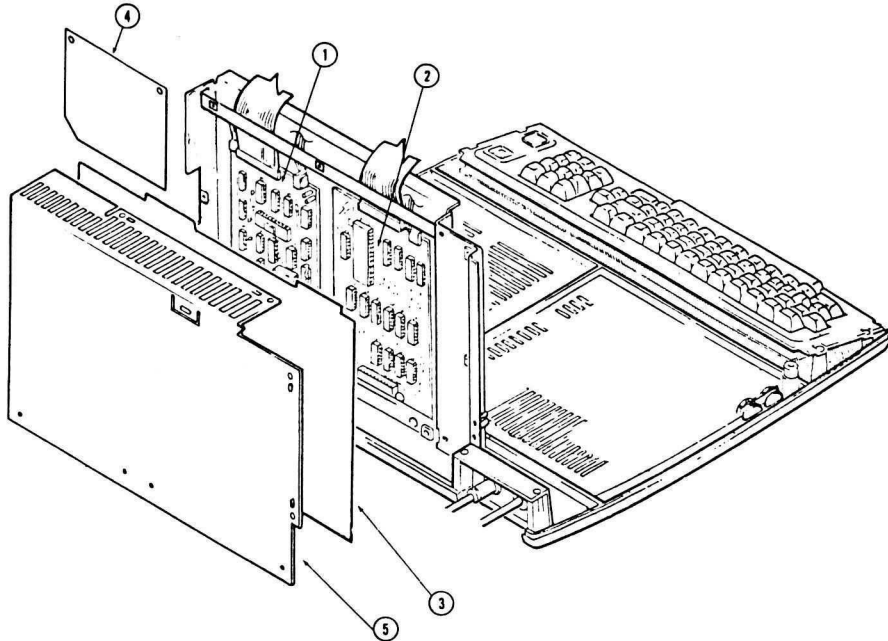

Figure 6. Model 4 Chassis Assembly
12. Install the Floppy Disk Controller (FDC) board (Figure 6 Item 1) on the chassis using 4 AHD-1552 screws.
14. Install the RS-232 board (Figure 6 Item 2) on the chassis using 4 AHD-1552 screws.
16. Install the Model 4 Logic (CPU) board and the mylar RFI shield (Figure 6 Items 3 and 4) that goes between the Logic board and the chassis using 8 AHD-1546 screws.
23. Install the Logic (CPU) board rear RFI shield (Figure 6 Item 5) and ground connections to the chassis using 6 screws. Then press the bottom edge of the shield against the chassis so that the tape along the lower edge of the shield adheres to the chassis.